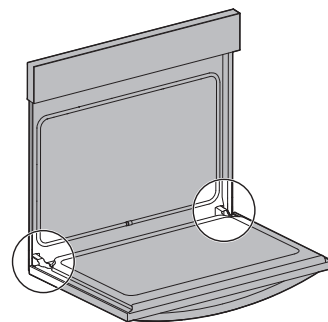

Figure 13: Door hinge location
1. Open oven door completely, horizontal with floor (Figure 13).
3. Fully open the oven door, horizontal with floor (Figure 13).